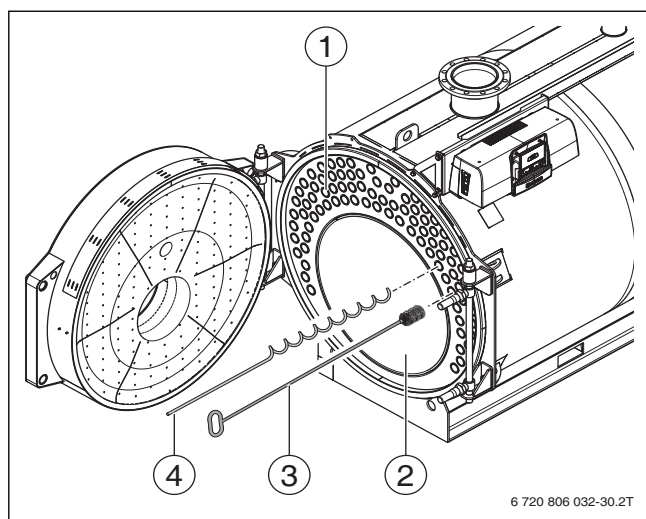

Fig. 30 Cleaning the heating surfaces
- Remove the loosened combustion residues from the combustion chamber (→ Fig. 30, page 29), the hot gas flue and the flue gas collector as well as the condensate hose.